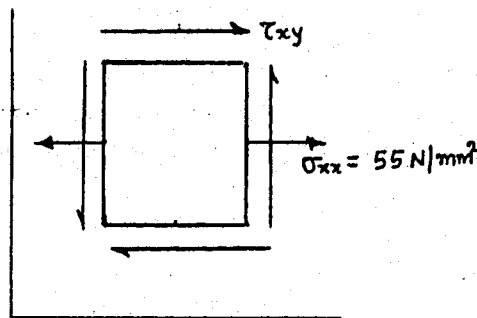

Fig.Q1(b)
1. a. A point in a structural member subjected to plane stress is shown in Fig. Q1(a). Determine the following :
- b. The state of stress at a point in a structural member is shown in Fig.Q1(b). The tensile principal stress is known to be 84 N/mm^2 . Determine i) the maximum shearing stress at the point and orientation of its plane ii) the shearing stress τ_{xy} . (10 Marks)